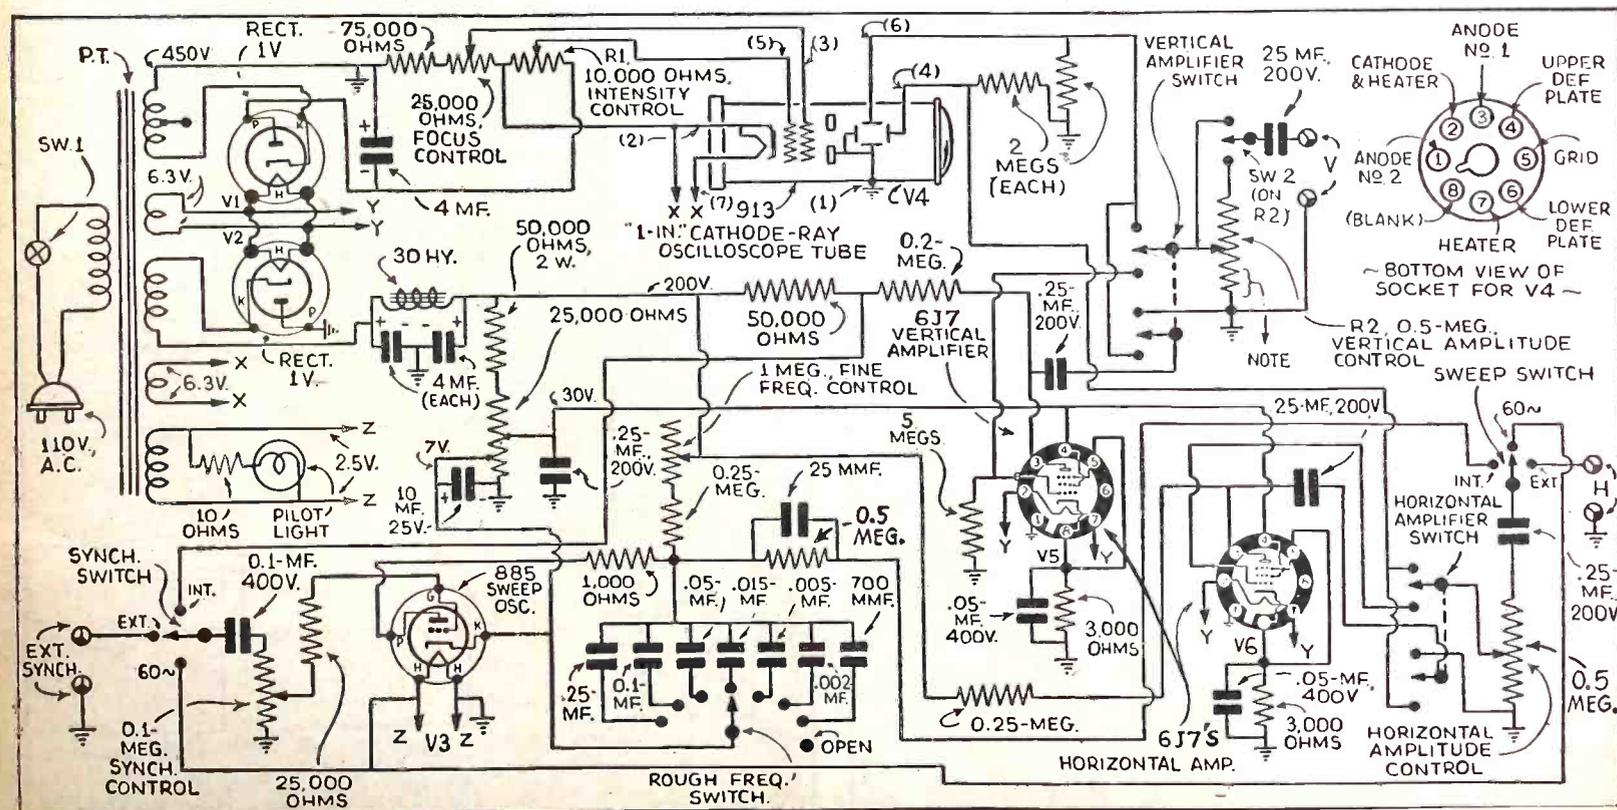
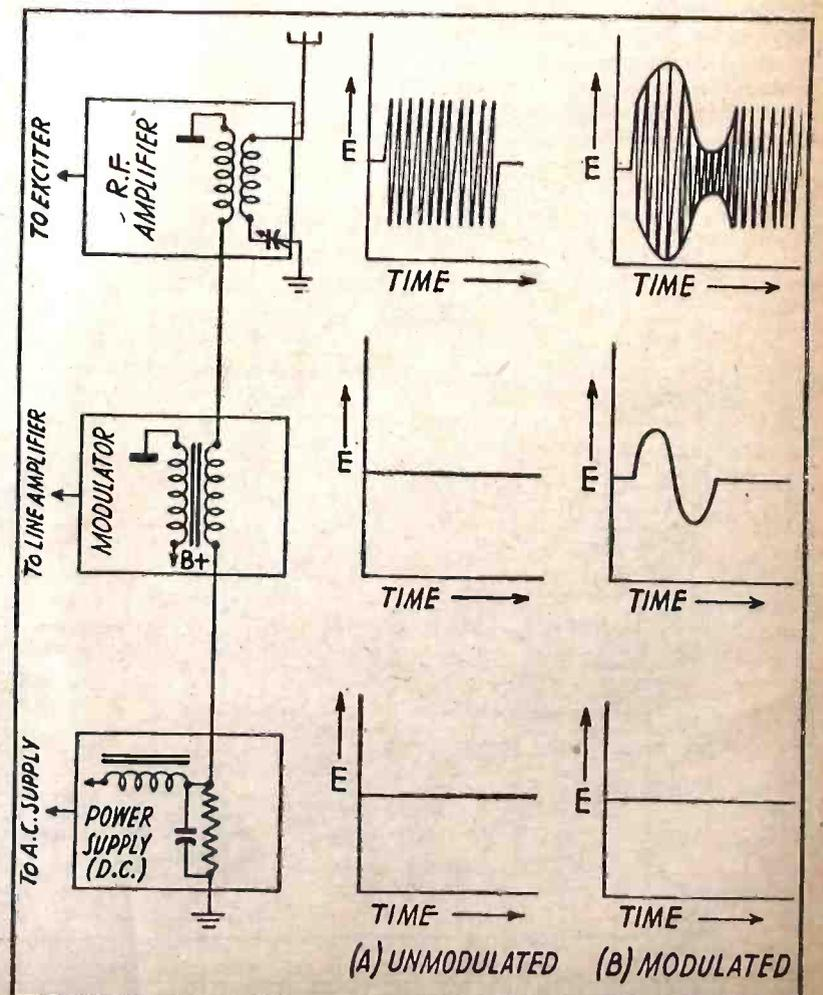
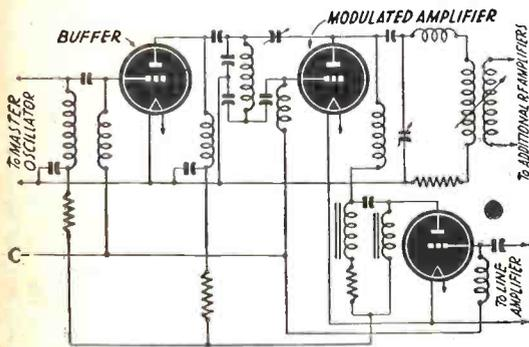

Fig. 2—A troubleshooter's portable oscilloscope, using the 1-inch 913 CR tube. Lettering makes this circuit very easy to follow.
Fig. 3—Plate modulation operation.
Fig. 4—A typical plate modulated amplifier.
Remembering that any action of the scope involves force applied to this electron stream, we can inspect the circuits and controls of the scope. Knowing the circuits and controls will enable us to use them to best advantage, and to service them when trouble occurs. Fig. 2 is an oscilloscope circuit. This is not any one of the common commercial models, but is reprinted from a construction article in *Radio-Craft* because of the clear identification of each component and control.
*The Power Supply* (Fig. 2, left) is necessary to provide voltages for the CRT itself, and for the various other tubes in the scope. Scopes operate on 115 volts A.C., so the transformer has an input primary of that rating. This transformer has secondaries for providing filament voltages, plate and screen voltages, and CRT voltages. Different types of scopes will of course use different power circuits, so exact analysis will depend on the scope used.
With all other factors constant, the R.F. potential developed in the tank circuit of the final amplifier is proportional to the plate voltage. Since the modulating voltage is in series with the plate supply, the effective voltage on the plate depends upon the amplitude and polarity of the audio voltage. The positive alternation of modulation adds to the plate voltage, and the R.F. output instantly increases in proportion to the sum of the two voltages. On the other half of the cycle, the audio opposes the supply voltage, and the effective voltage at the plate becomes the difference between the two. This is shown graphically in Fig. 2 and schematically in Fig. 3. A Western Electric system of low-level plate modulation employing choke coupling, which is capable of 100% modulation, is illustrated in Fig. 4.